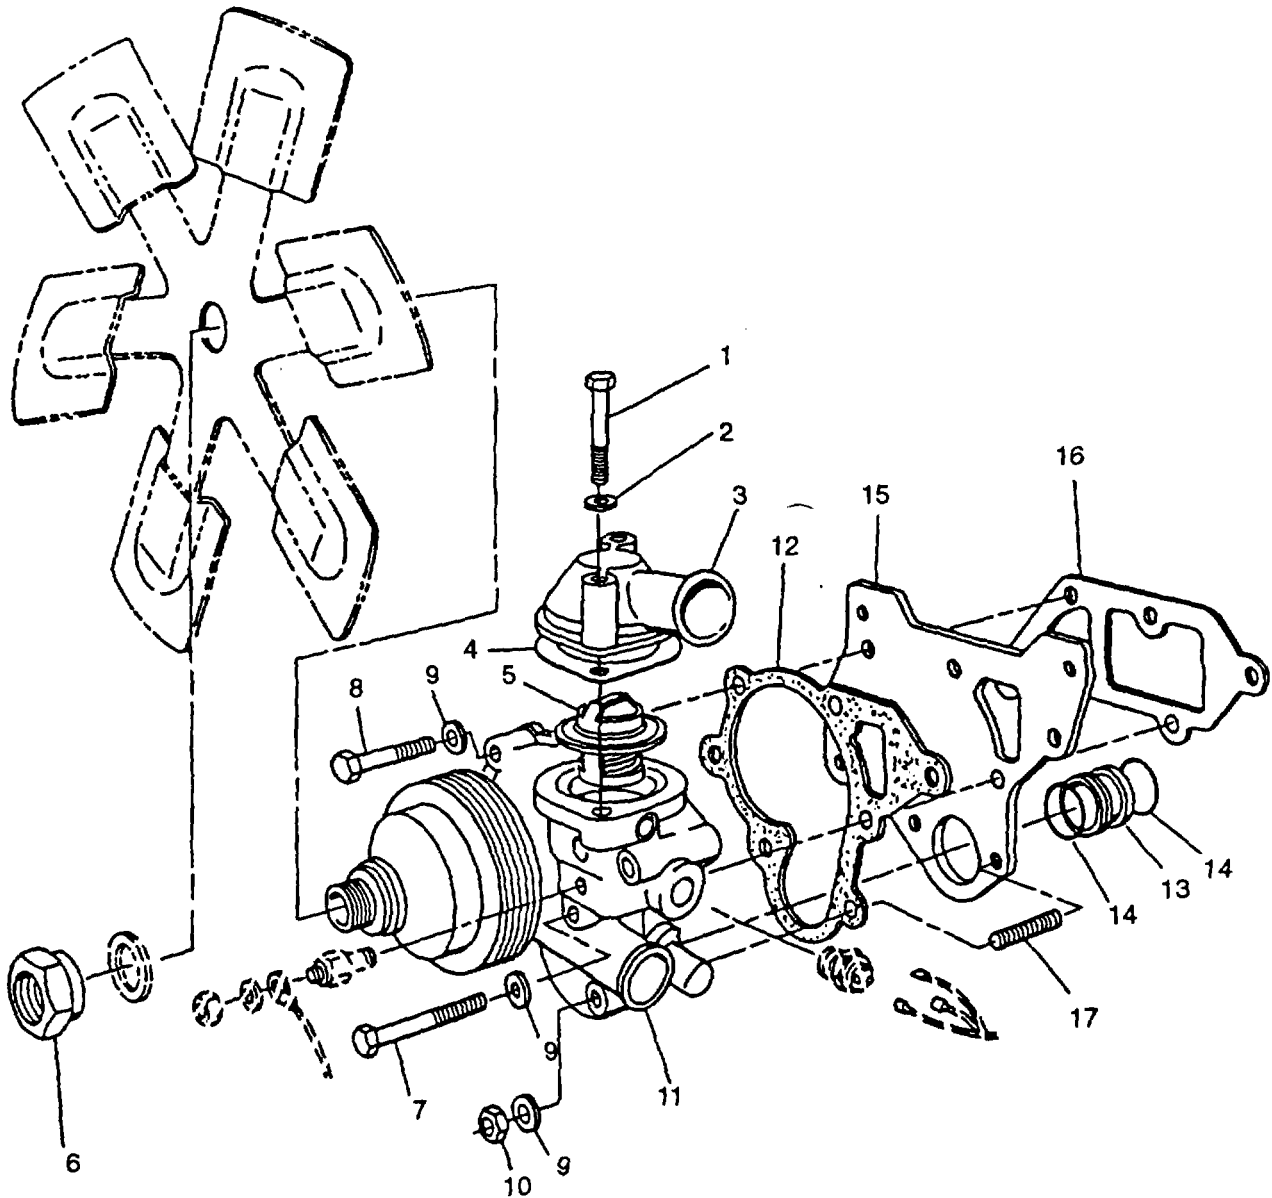

FIGURE 3-4. Cooling System
- c. Loosen hose clamp and disconnect outlet hose from thermostat housing (3, FIGURE 3-4).
- d. Remove two capscrews (1), washers (2), thermostat housing (3), and gasket (4). Discard gasket (4).
- e. Remove thermostat (5) from water pump.
- b. Clean any debris and traces of old gasket from thermostat housing (3, FIGURE 3-4) and water pump (11) mating surfaces. Dry all surfaces.
- c. Install thermostat (5) in water pump.
- d. Install new gasket (4), thermostat housing (3), two washers (2) and capscrews (1).
- e. Connect outlet hose to thermostat housing (3) and secure with hose clamp.
Nut (6, FIGURE 3-4) has left hand threads.
If two water pump studs (17, FIGURE 3-4) have been removed, they must be installed and finger tightened. Do not overtighten as this will cause thread damage preventing a fiat sealing surface.